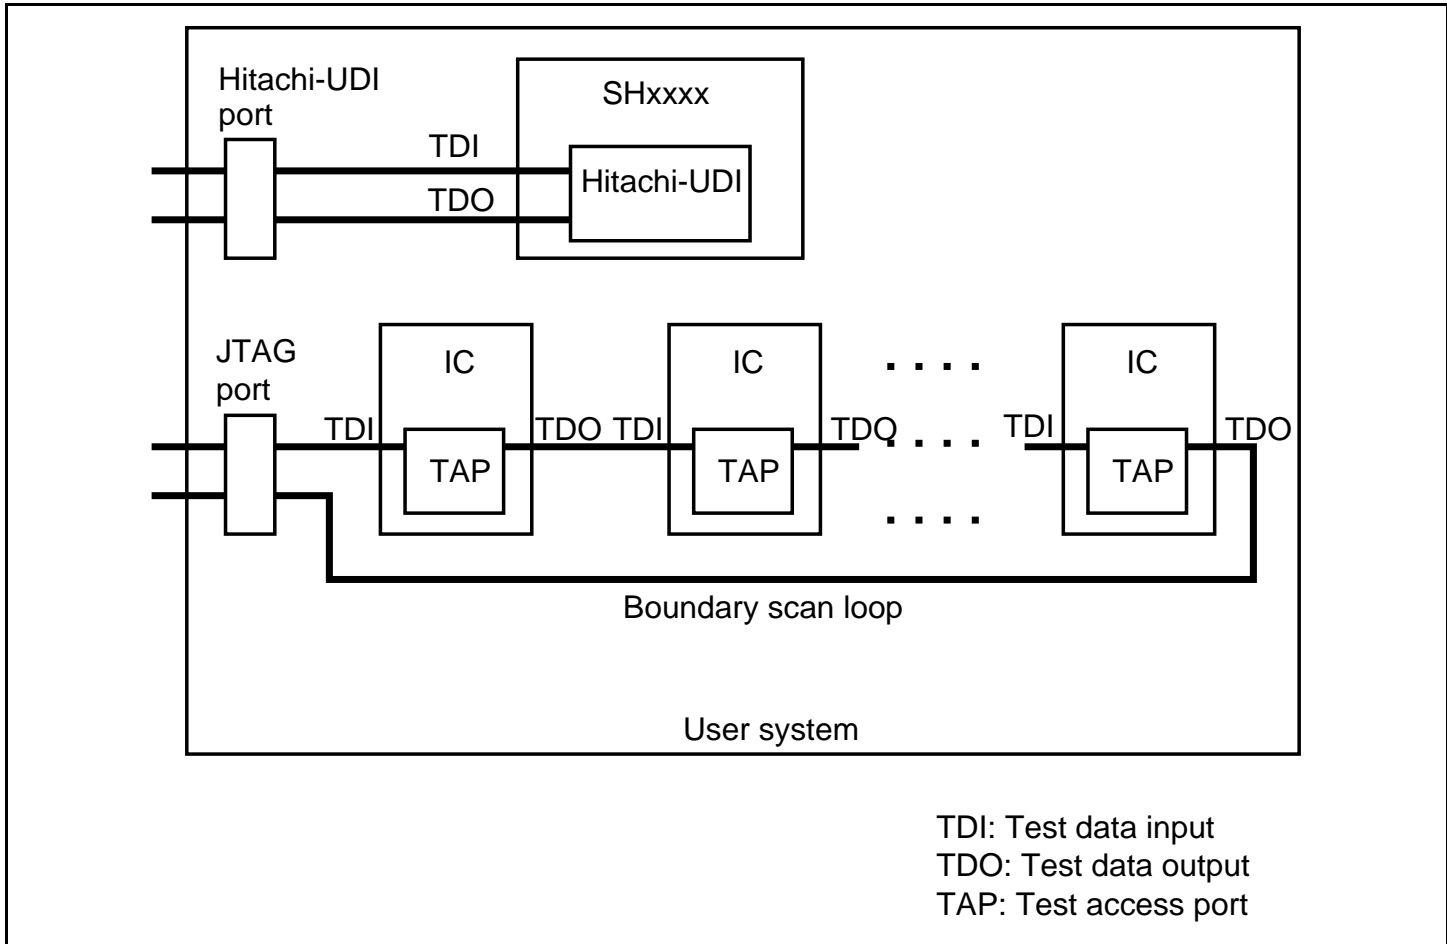

Figure 2.5 User System Example
- 5. When developing user systems, do not connect the TDI and TDO signals of the device to the boundary scan loop, or separate them by using a switch (figure 2.5).**